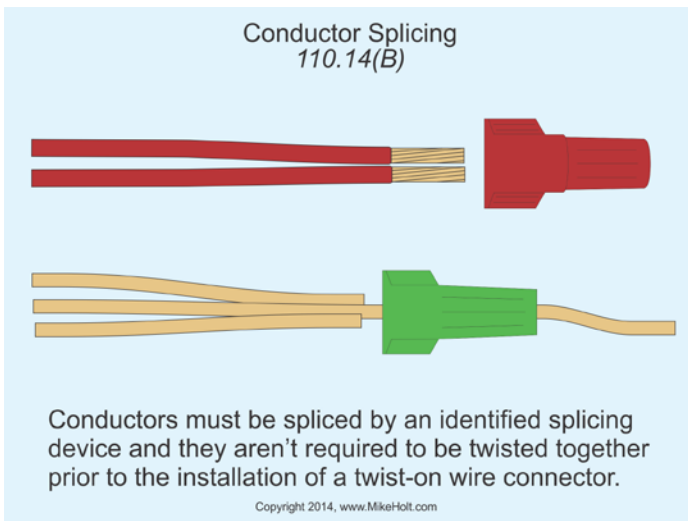

Figure 110-27
- Conductors aren't required to be twisted together prior to the installation of a twist-on wire connector, unless specifically required in the installation instructions. Figure 110-27